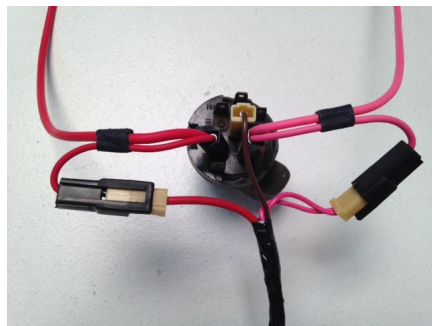
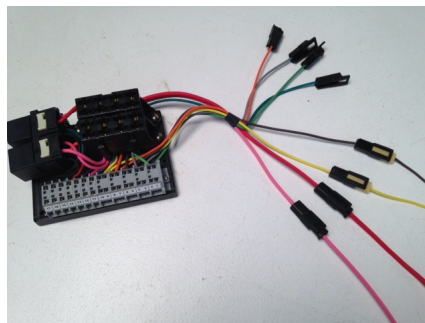
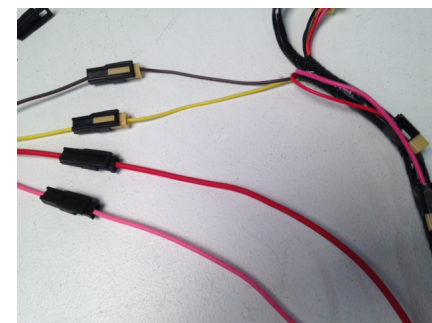

FIGURE 1
FIGURE 2
FIGURE 3
1. Unplug the original red wire that is connected to the ignition switch "BAT" terminal. Connect the new long heavy 10 gauge red extension wire with the pigtail end that is supplied with this kit onto the ignition switch "BAT" terminal as shown below in figure 1 below. Plug the original red wire that was just removed from the "BAT" terminal into the pigtail of the 10 gauge red extension wire. Route the other end of the 10 gauge red extension wire to the new fuse panel, and connect it to the heavy 10 gauge red wire that is coming out of that new fuse panel as shown in figure 2 below. Tape the red wire that was the feed to the original fuse panel, back to the trunk of the harness as shown in figure 3 as it is still hot, but will no longer be used.
2. Unplug the original pink wire that is connected to the ignition switch "ACC" terminal. Connect the new long heavy 12 gauge pink extension wire with the pigtail end that is supplied with this kit onto the ignition switch "ACC" terminal as shown in figure 1 below. Plug the original pink wire that was just removed from the "ACC" terminal into the pigtail of the 12 gauge pink extension wire. Route the other end of the 12 gauge pink extension wire to the new fuse panel, and connect it to the heavy 12 gauge pink wire that is coming out of that new fuse panel as shown in figure 2 below. Tape the pink wire that was the feed to the original fuse panel, back to the trunk of the harness as shown in figure 3 as it is still hot, but will no longer be used.